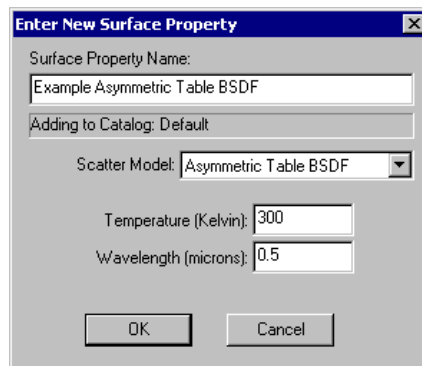

FIGURE 3.23 - Selecting Asymmetric Table BSDF from the Scatter Model list in the Enter New Surface Property dialog box.
3. Click on *Add Property*. When the *Enter New Surface Property* dialog box is displayed as shown in Figure 3.23, select *Asymmetric Table BSDF* from the *Scatter Model* list, enter a name for your new property and values for initial angle and initial wavelength, then click OK.